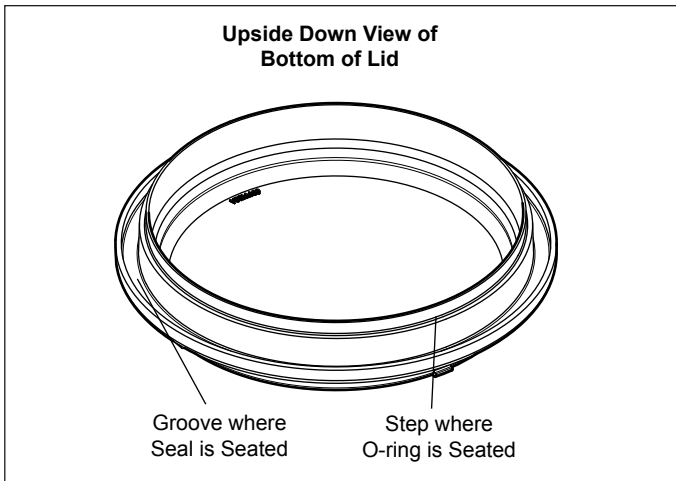

Figure 4. Placement of Blue Pressure Test O-ring
2. Place the blue o-ring on the step located $\frac{1}{4}$ " from the bottom of the lid. See Figure 4.
NOTE The blue o-ring sits approximately $\frac{1}{4}$ " away from the seal. See Figure 4.